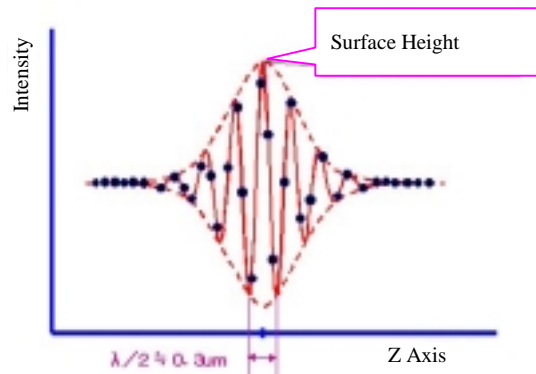

Figure 2 Interferogram of the VSI method
- When a white light is used as the light source of an interference microscope, and the Z-axis of a microscope is moved continuously, the modulation of an interference fringe changes depending upon the optical path difference as shown in Figure 2.